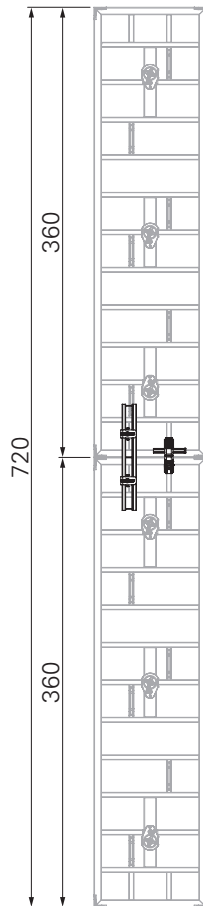
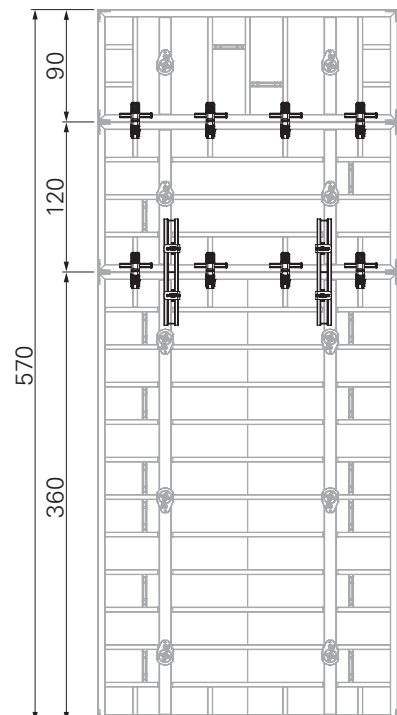

Fig. E9.01a
Fig. E9.01c
- For extension units with a height of $5.70 \text{ m} < H \leq 7.20 \text{ m}$, fit Alignment Couplers BFD (28) and Compensation Walters-4 MAR 85 (33) at the panel joints.
- Examples: (Fig. E9.01a – Fig. E9.01c)
- If a Panel MX-2 $H = 30$ cm is added horizontally, the tie can be dispensed with for this panel. The unused tie point must be sealed with a Plug MXM18 $\text{Ø}27.6$ mm (71).